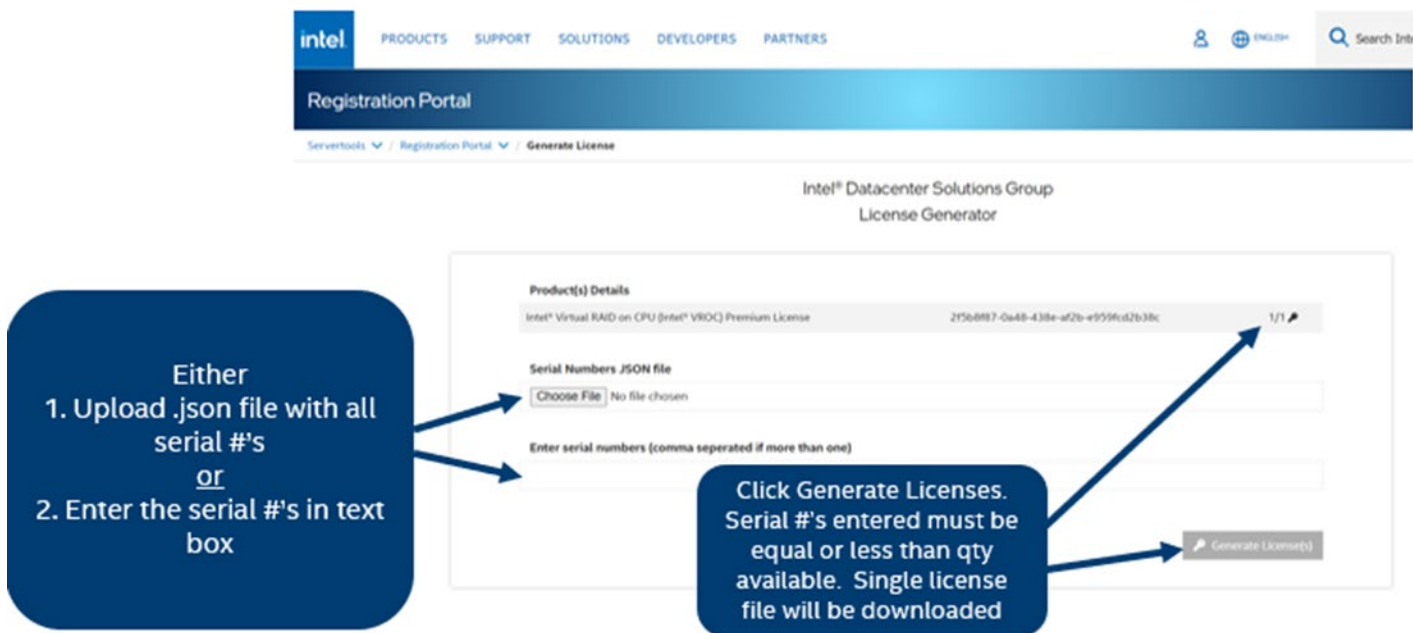

Figure 83. Activate Key for Intel® Virtual RAID on CPU Standard/Premium Software Key
- Multiple board serial numbers can be entered in the text box or by uploading a .JSON file with the list. Only a single license file will be downloaded. This single license file will work with all systems that match one of the serial numbers. (see Figure 83)